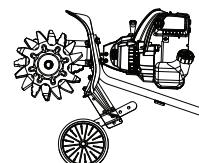

Fig. 11
- Place the unit in a horizontal position to get a proper oil level reading (Fig. 11).